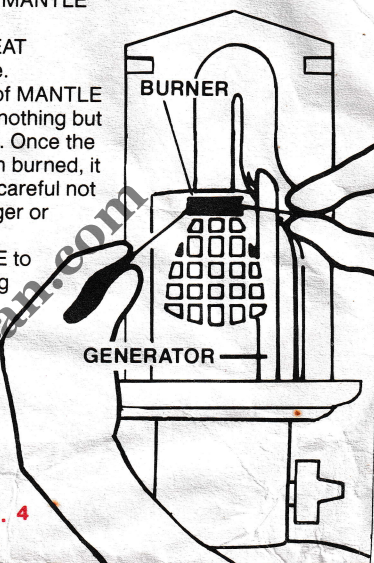

Fig. 4
2. Tie MANTLE around grooves in BURNER. (Fig. 4) Distribute folds of MANTLE evenly.